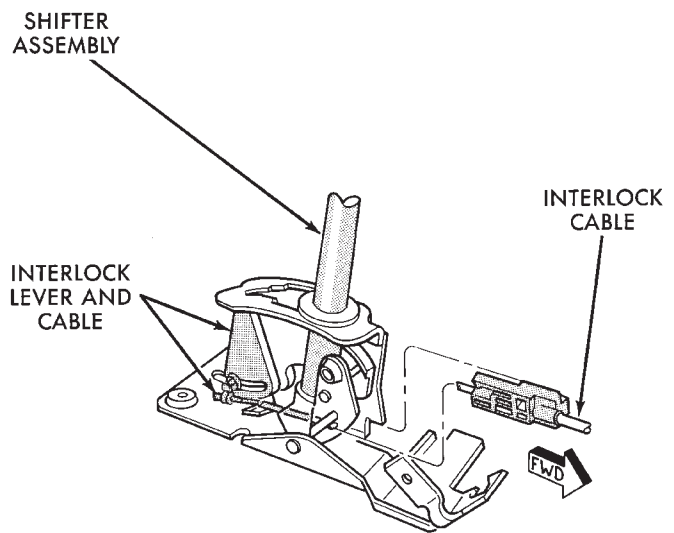

Fig. 11 Interlock Cable Removal
cable from shifter assembly by grasping cable and pulling strait out from front of shifter assembly (Fig. 11).
(6) Snap the end fitting of the interlock cable into the corner of the shifter assembly (Fig. 11). The cable end and clip must pass under and clip to the shifter pivot.